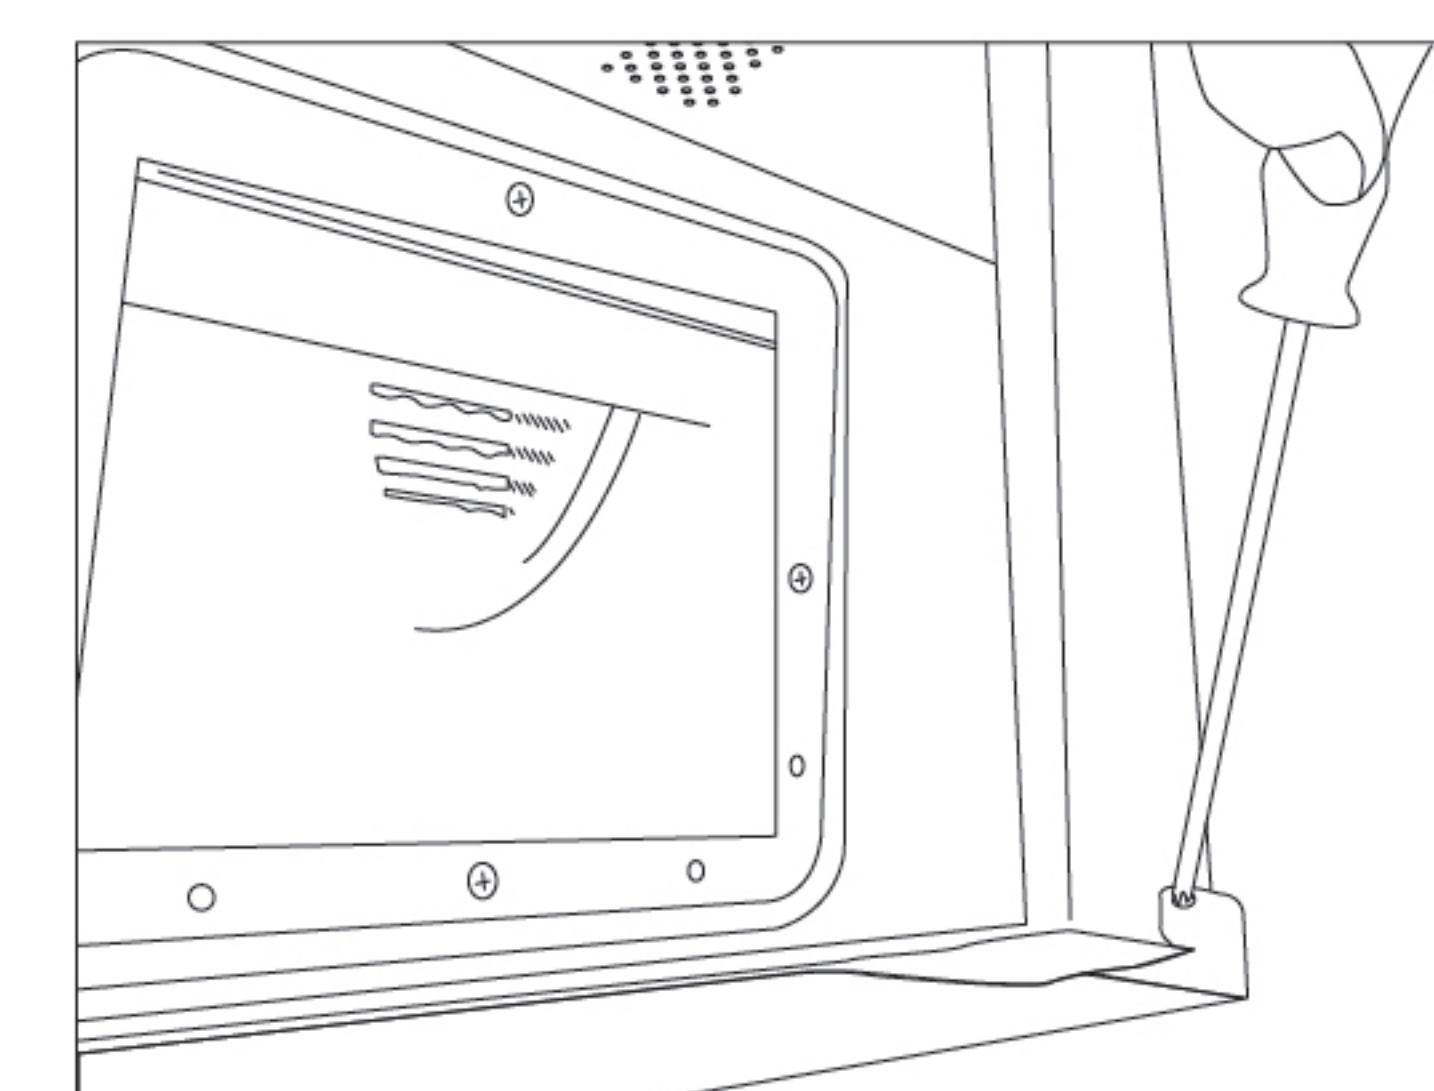

Fig.4
1. Take the decorative cover down from the cover hook(Fig.4) and slowly place it on the fan frame.